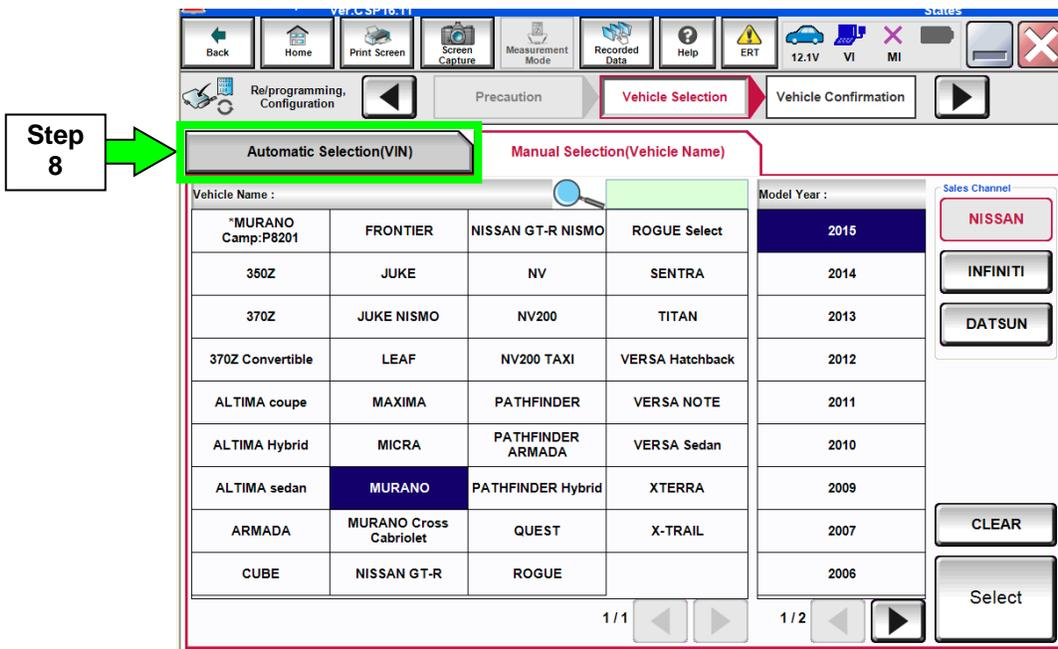

Figure 3
8. If the screen in Figure 3 appears, select **Automatic Selection(VIN)**.